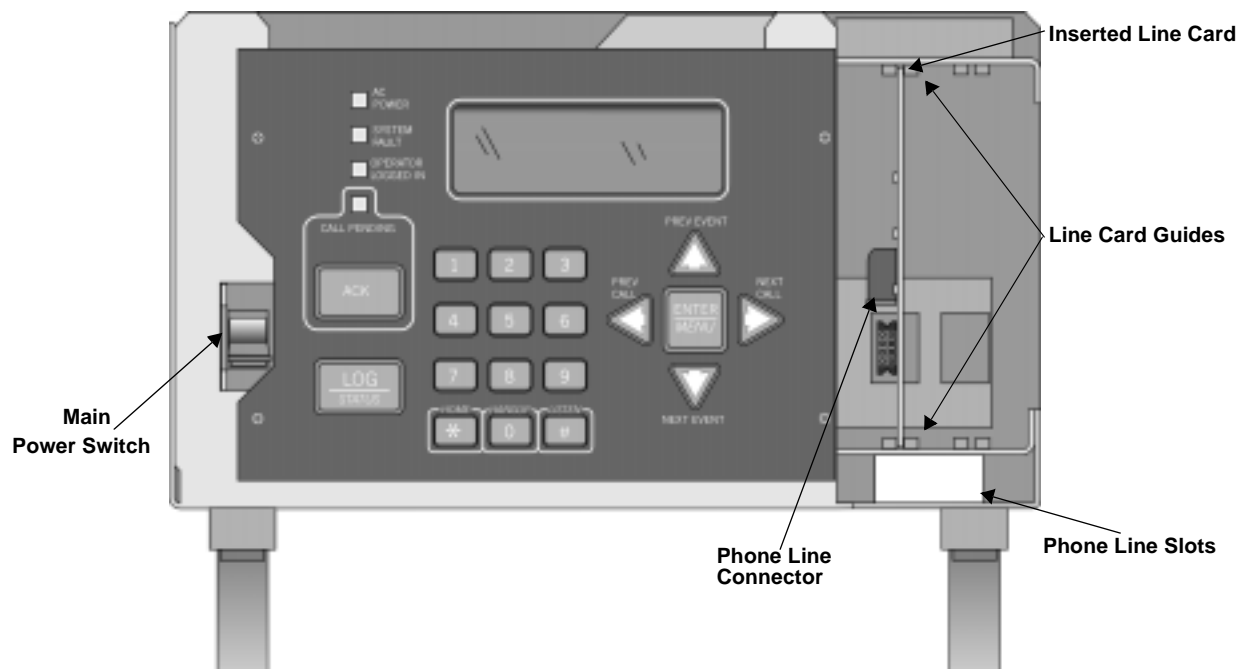
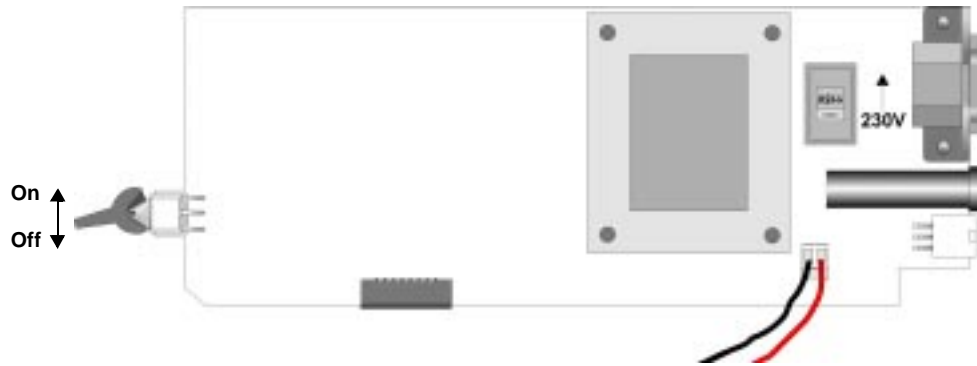
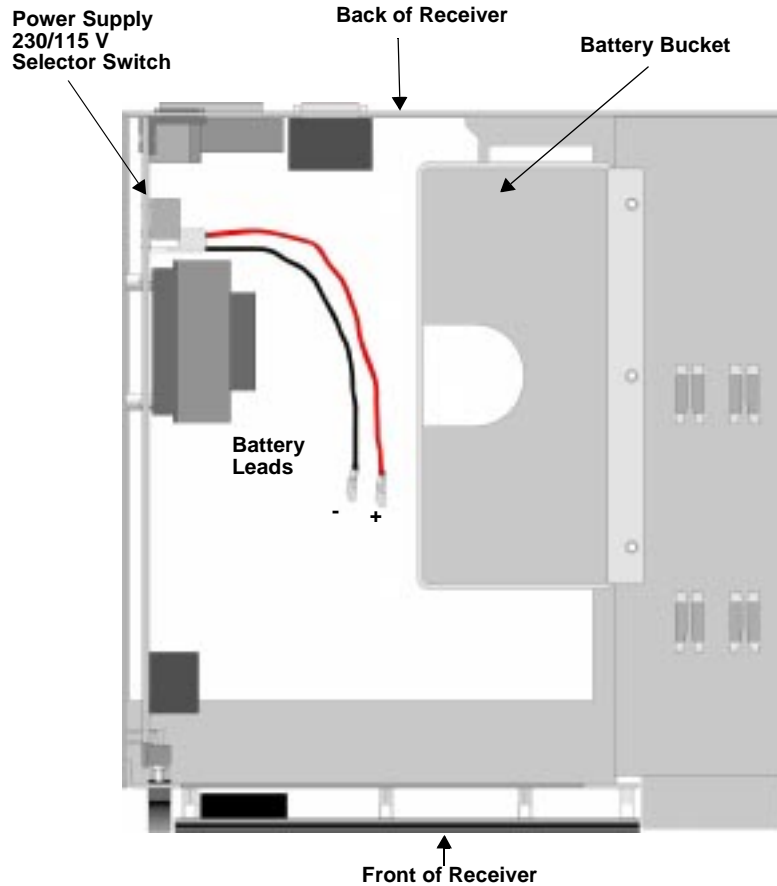

Figure 3-2 Model 9500 Front View Without the Cover On
Figure 3-10 Side View of Power Supply Assembly
Figure 3-12 Top View of Receiver
2. Turn off the 9500's AC power switch (see Figure 3-2 for power switch location).
1. Before the AC power cord is connected, make sure that the power switch is in the OFF (down) position. See Figure 3-2 and Figure 3-10.
2. Turn the main power switch to the “off” position. (See Figure 3-10.)
5. Switch the power supply select switch to the up position. The switch will show 230VAC. (See Figure 3-10 and Figure 3-12.)
8. Turn the main power switch to the “on” position. (See Figure 3-10.)
1. Place the 6712 backup battery into the battery bucket. (See Figure 3-12.)